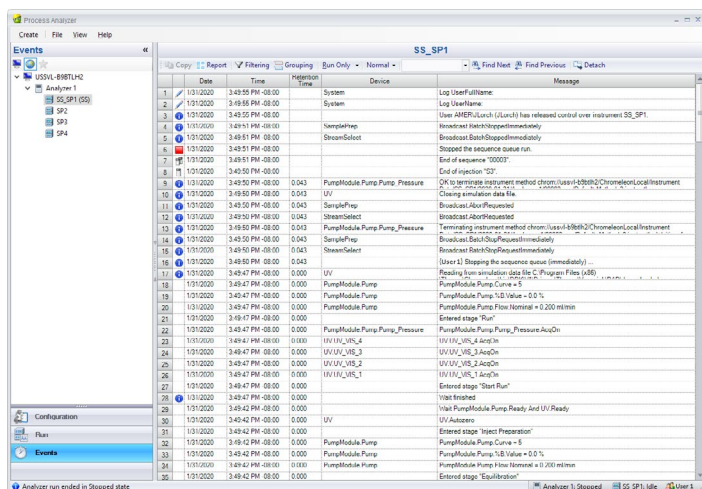

Figure 8. Chromeleon 7 PA software: Audit trail
- Support for 21 CFR Part 11 compliance, including secure, administrator-controlled user access and permissions, and audit trails (Figure 8)